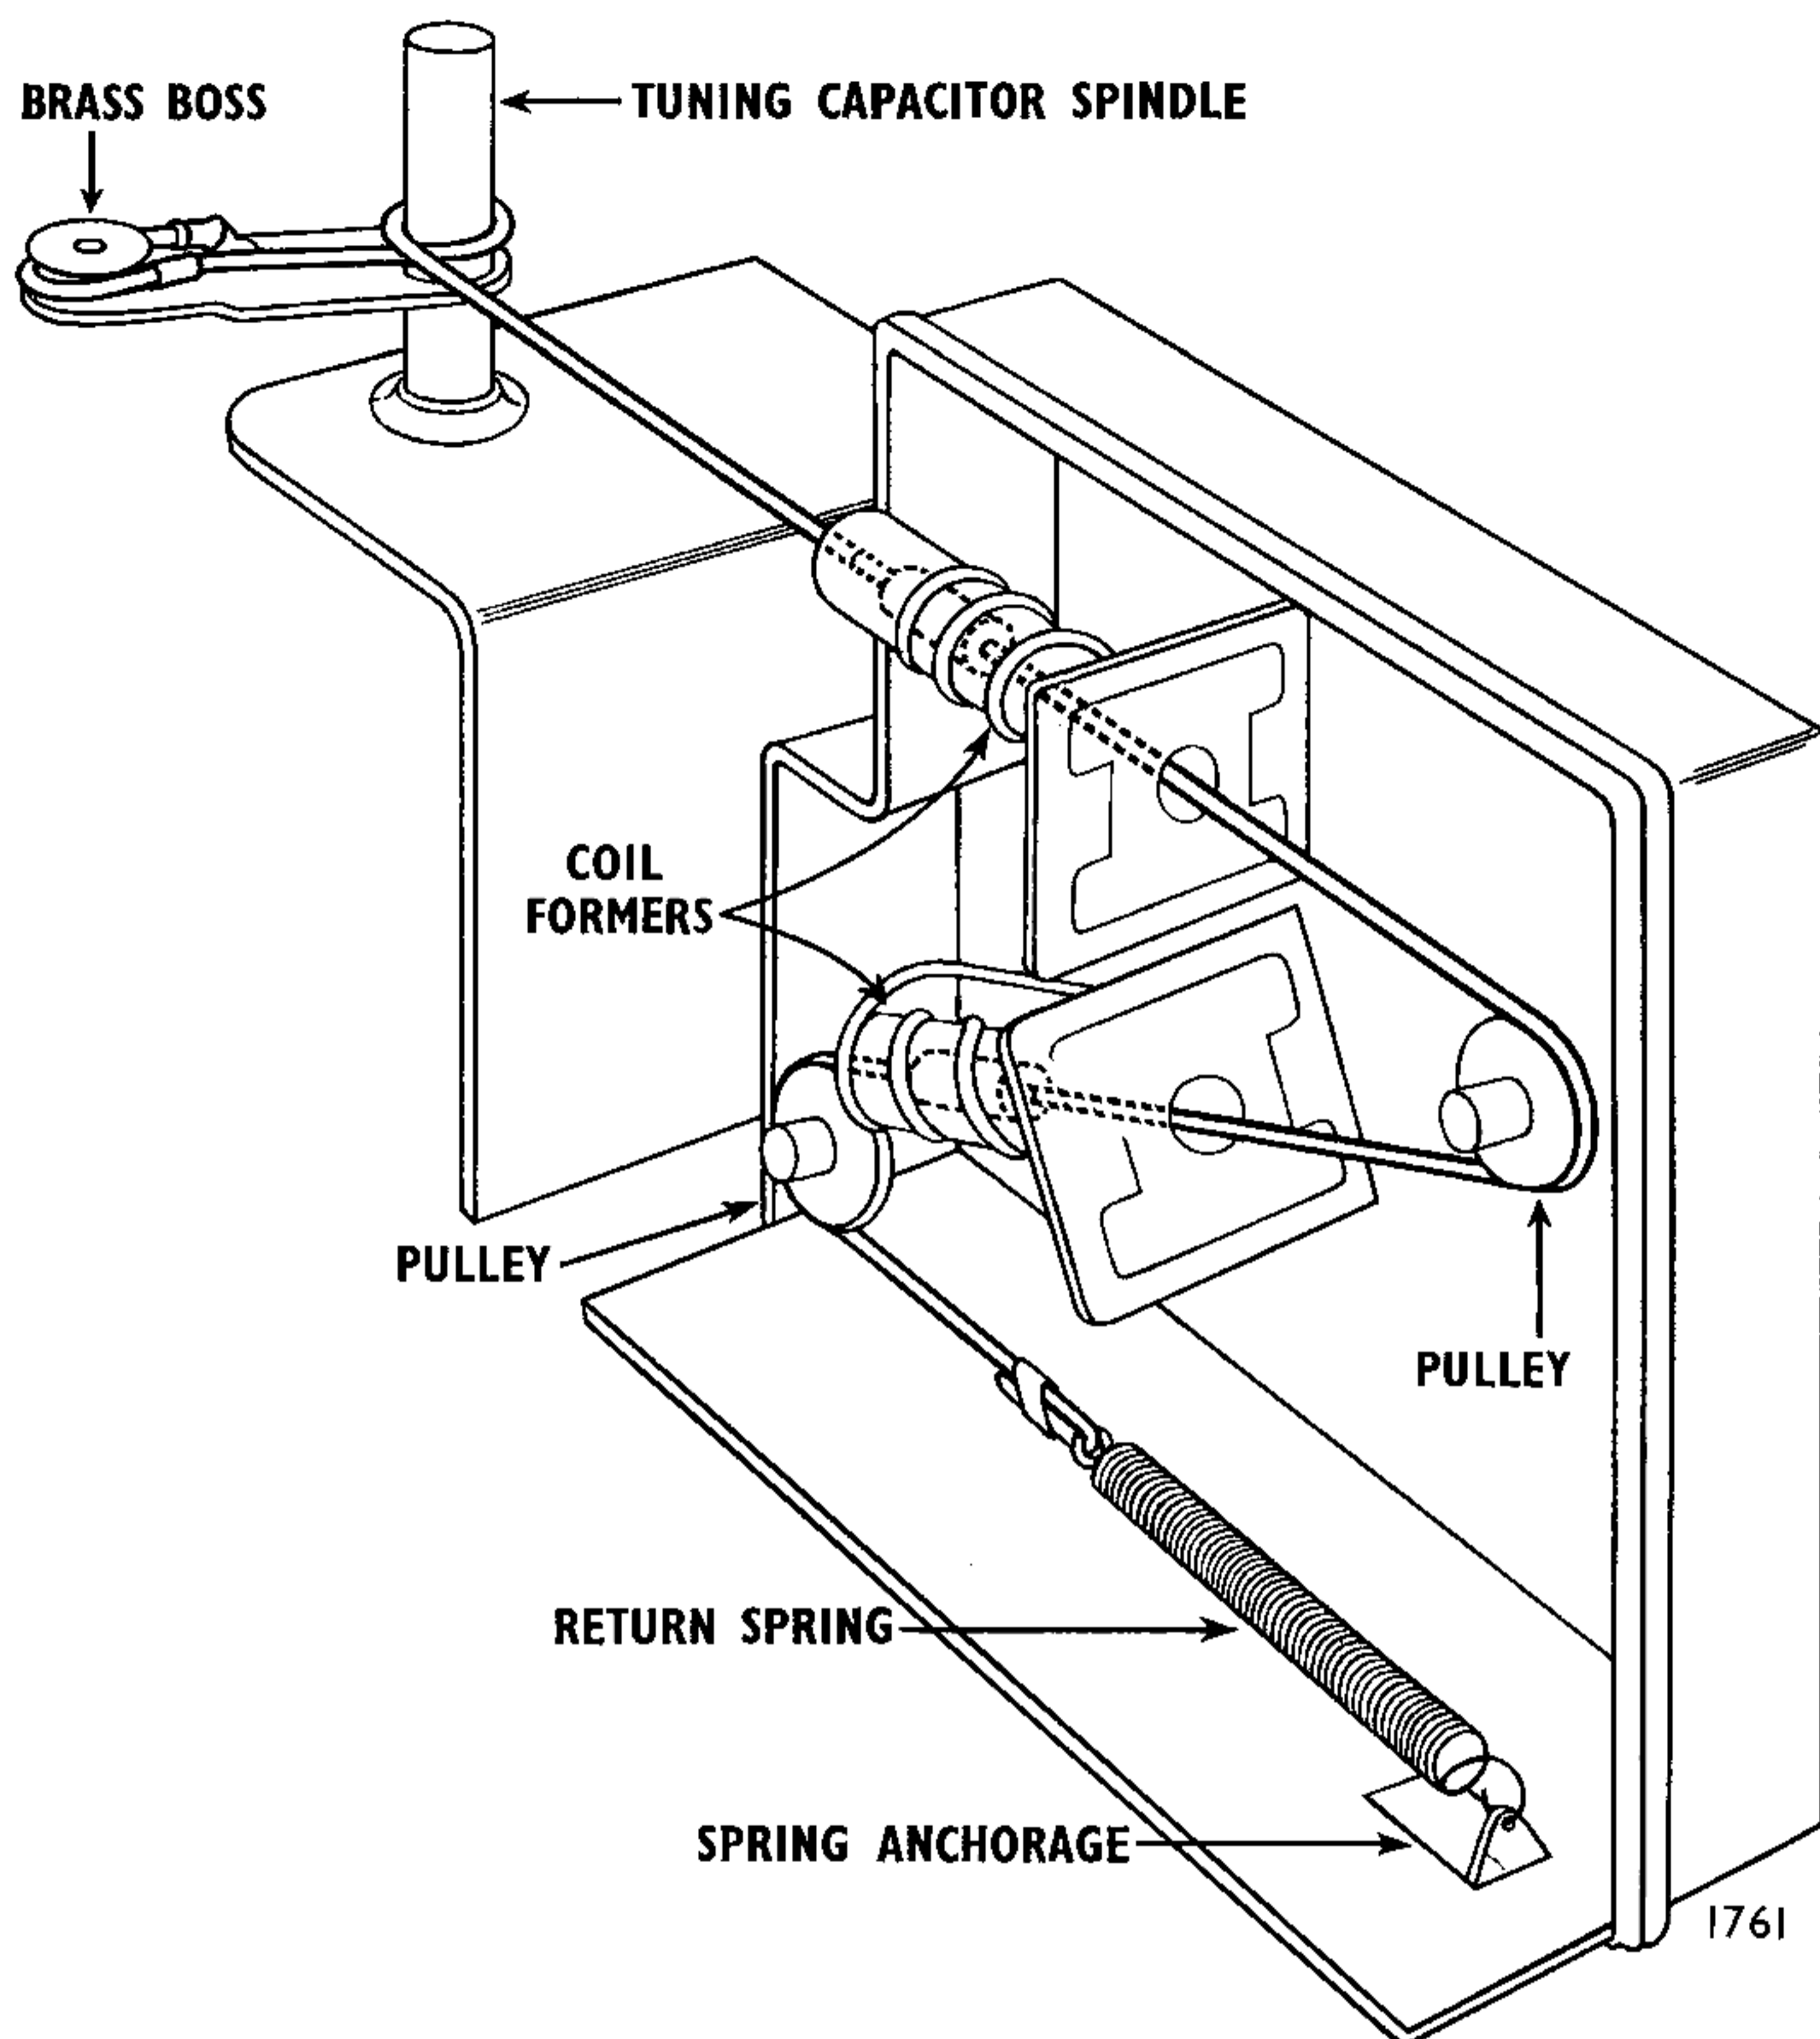

Fig. 5—VHF Cord Drive
7. Thread assembly of tuning cores (fig. 5) through coil formers and hook the spring to its anchorage.